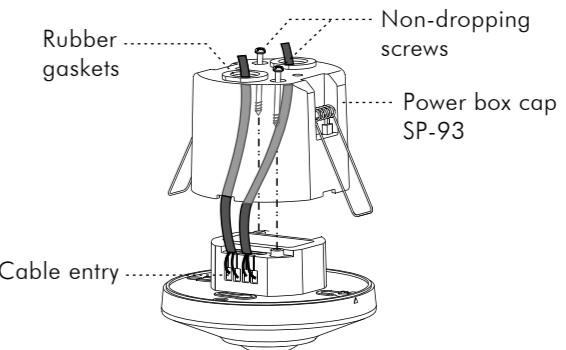

FIG.10
- 3.4.2.2 Use a screwdriver to break the rubber gasket on SP-93, then feed cables through it (See FIG.10).